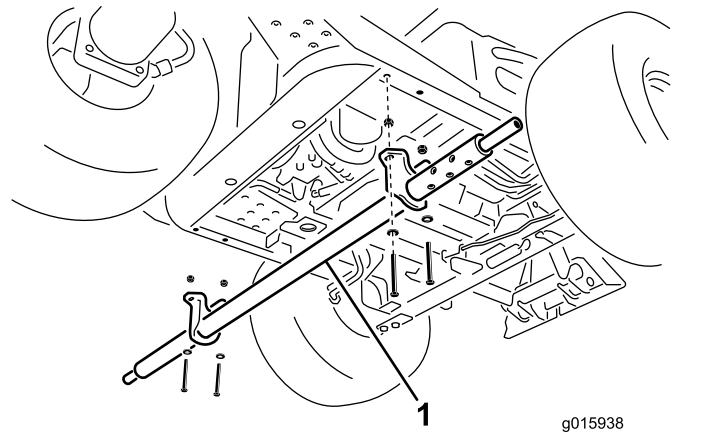

Figure 4
1. From the left side of the machine, slide the cross tube assembly under the machine, aligning the mounting bracket holes with the holes in each frame tube (Figure 4).
2. Secure the cross tube mounting brackets to the frame tubes with 4 screws (3/8 x 3 inch), 4 flat washers, and 4 locknuts (3/8 inch); refer to Figure 4.